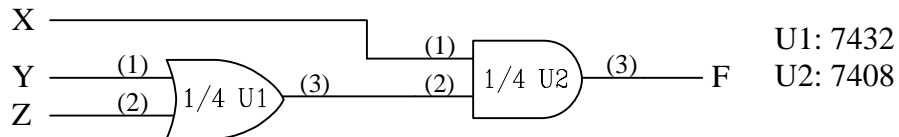
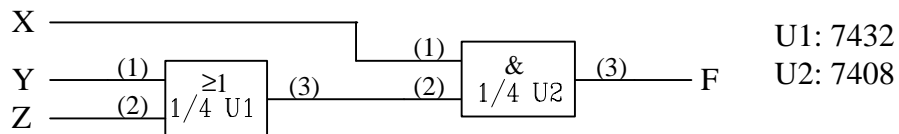

Figure 3: A Logic Diagram Using Distinctive Symbols
Figure 4: A Logic Diagram Using IEEE Standard Symbols
A complete logic diagram including pin numbers using the 7408 and 7432 chips can be drawn as is done in either of Figure 3 or Figure 4,
The only diagrams you will need to make for this lab are the logic diagrams with part and pin numbers as in Figure 3 or Figure 4. They clearly convey how the circuit is intended to work logically, and they also give the chip and pin numbers which facilitate circuit implementation, testing and debugging.
2. Next, beginning at the output pin, move backwards through the circuit checking the logic at each point with the logic probe. For example, consider Figure 3. Assume that, for a particular combination of inputs, the output at pin 3 of U2 is supposed to be high, but is in fact low as indicated by an LED to which it is connected. First check pin 3 of U2 with the logic probe to make sure that it really is low and that the LED is not just giving a false indication (maybe it is burned out or the connection between pin 3 and the LED is broken). Assuming that the probe shows that pin 3 of U2 is low, we next check the gate inputs at pins 1 and 2 of U2. If pin 3 of U2 is supposed to be high, both pins 1 and 2 should also be high. If the probe shows that they are, then it *appears* that the gate is bad. However, the probe may show that one or both inputs are not connected to anything by indicating neither high nor low. Or it may show that one input is in fact low. In this case the next step is to check the gate output that is connected to this input. Continue this process, working back through the circuit, until a bad gate or a bad connection is identified.
- (b) Draw a logic diagram showing how a 3 input AND function can be implemented using 2 two input AND gates and verify that your design is correct by finding its truth-table as was done in Figure 3.
Obtain the Boolean expression and truth table that describes this circuit. Compare the truth table with the one given for the circuit in Figure 3. What can you say about these two circuits?